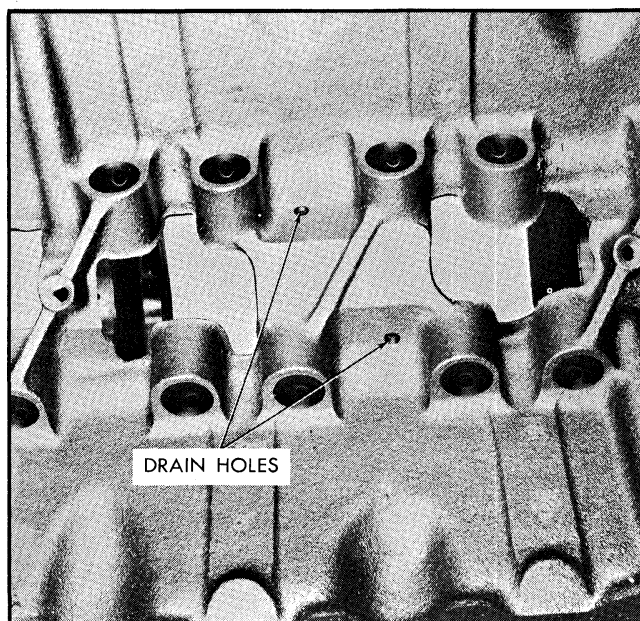

Fig. 6-154 Drain Holes in Lifter Gallery
h. Use wire to check two drain holes in lifter gallery (Fig. 6-154).